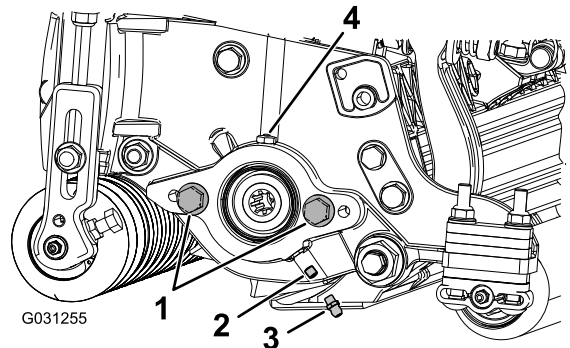

Figure 6
1. Remove and discard the set screw on the reel-motor side plate (Figure 6).
2. Install the straight grease fitting (Figure 6).
3. If there are no bolts on the reel-motor side plate, install them (Figure 6).
6. Grease the side plate until excess grease comes out the grease vent (Figure 6).